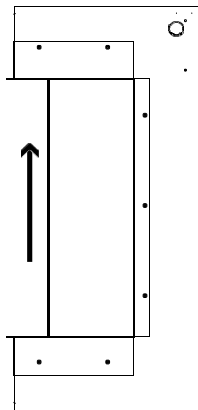

Figure 2.1
2. Lift the front glass up with sucker as Figure 2.1.